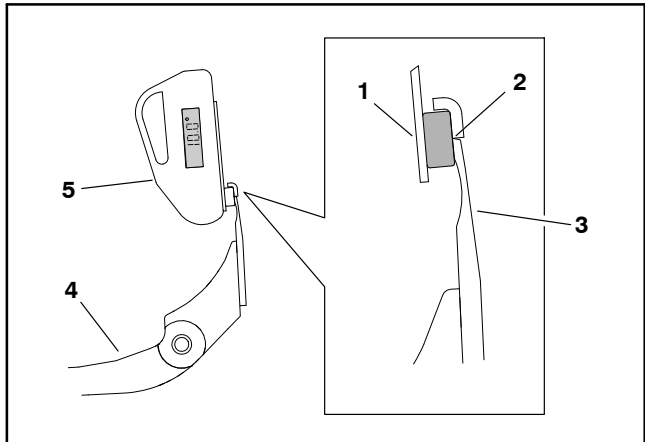

Figure 12
3. Remove the angle indicator and place the angle-indicator mount on the edge of the bedknife so the face of the magnet is flat against the top of the bedknife (Fig. 12).
4. Place the angle indicator on the mount with the digital display facing you as shown (Fig. 12). The angle displayed on the indicator is the current bedknife top angle.